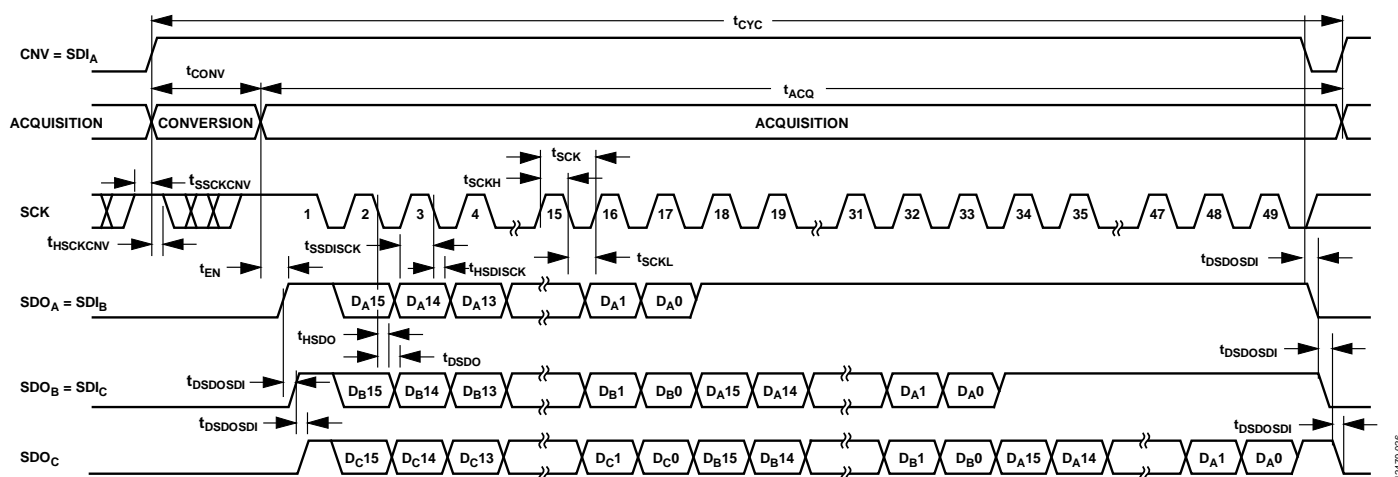
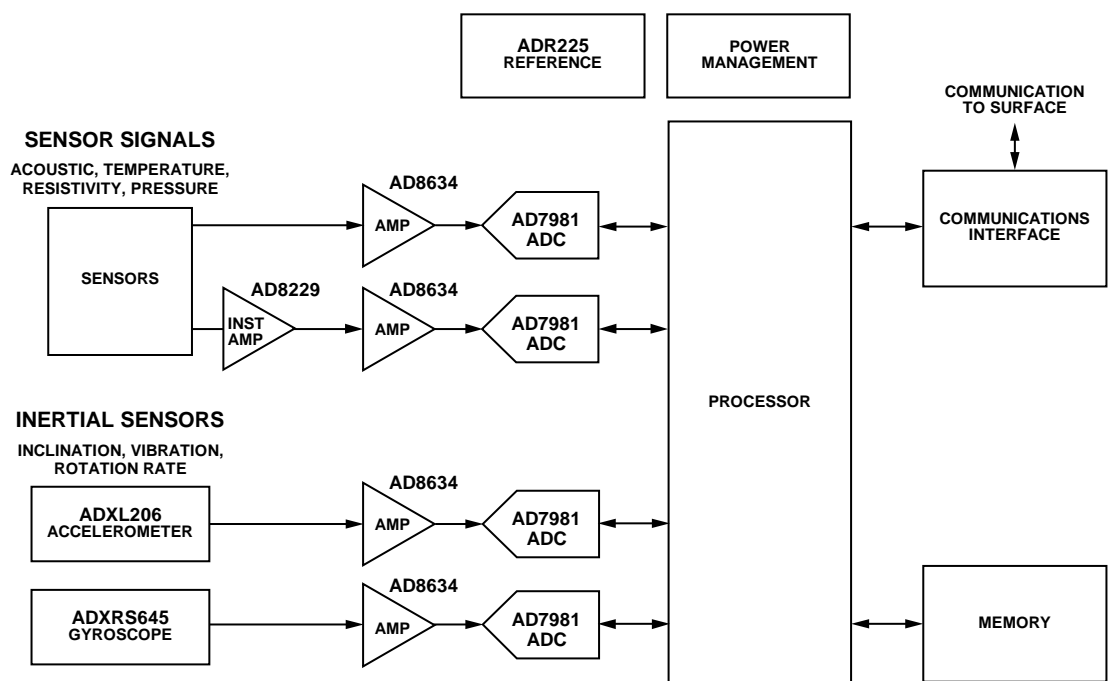

Figure 52. Chain Mode with Busy Indicator Serial Interface Timing
Figure 53. Simplified Data Acquisition System Signal Chain
- In chain mode if SCK is high during the CNV rising edge (see Figure 53).
A connection diagram example using three AD7981 devices is shown in Figure 52, and the corresponding timing is given in Figure 53.
data readback. When all ADCs in the chain have completed their conversions, the SDO pin of the ADC closest to the digital host (see the AD7981 ADC labeled C in Figure 52) is driven high. This transition on SDO can be used as a busy indicator to trigger the data readback controlled by the digital host. The AD7981 then enters the acquisition phase and powers down. The data bits stored in the internal shift register are clocked out, MSB first, by subsequent SCK falling edges. For each ADC, SDI feeds the input of the internal shift register and is clocked by the SCK falling edge. Each ADC in the chain outputs its data MSB first, and $16 \times N + 1$ clocks are required to read back the N ADCs. Although the rising edge captures the data, a digital host using the SCK falling edge allows a faster reading rate and, consequently, more AD7981 devices in the chain, provided the digital host has an acceptable hold time.